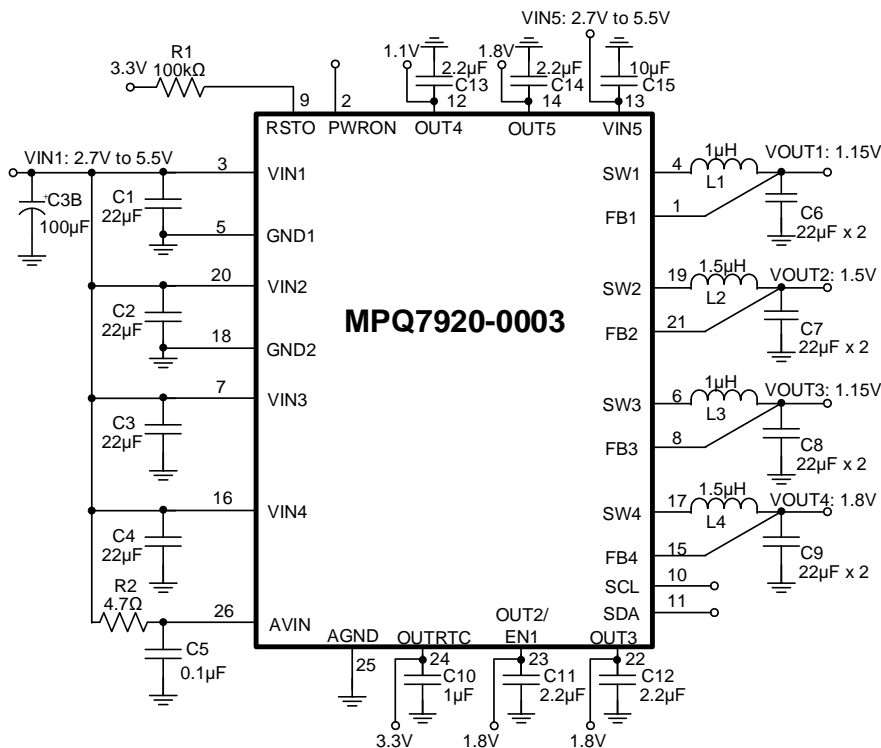

Figure 17: Typical Application Circuit 1 (20) (21)
18) The recommended layout is based on Figure 17 on page 40.